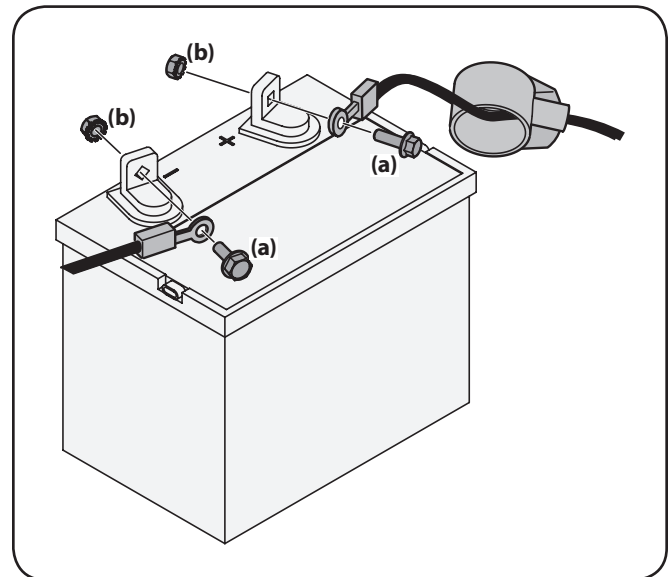

Figure 3-2
1. Attach the red cable to the positive(+) battery terminal and the black cable to the negative (-) battery terminal with the bolts (a) and hex nuts (b) attached to the battery cables. See Figure 3-2.